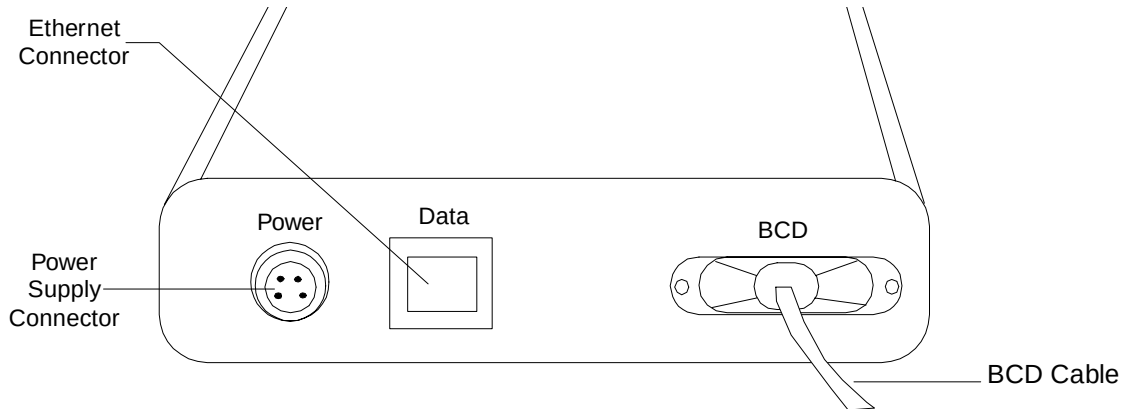

Figure 2-6 Connecting the Optional BCD Cable
1. Connect the BCD cable to the connector labeled BCD on the rear panel of the e-SAT/IN module (Figure 2-6).